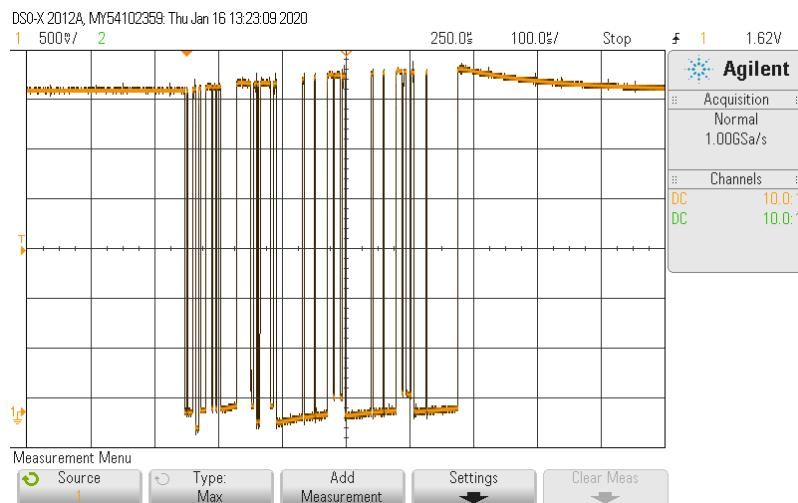

Figure 11.3: SWD signal when there is a response from the SAM4S. The decaying waveform at the end occurs when the pin is tri-stated.
3. Check the SWD signal. If the SAM4S responds, the waveform seen in Figure 11.3 should be observed on the SWD pin. Note, you will need to zoom in on the waveform.